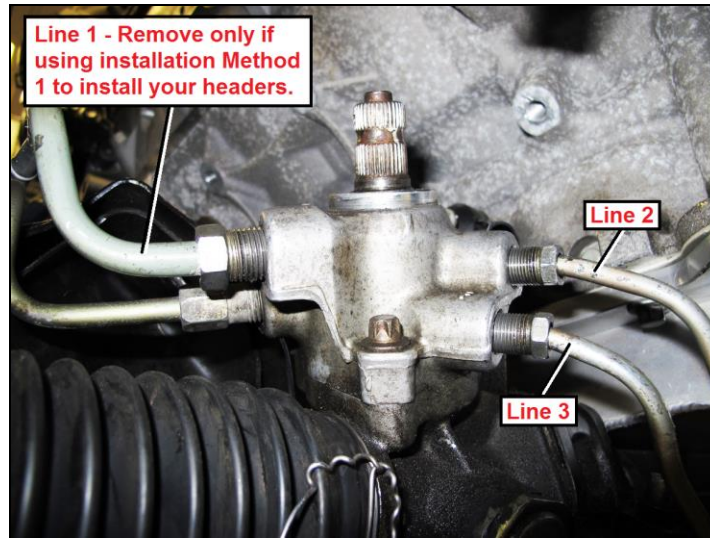

Figure 1
4. Place a small drain pan under the steering components and remove the two or three steel lines from the steering rack as indicated in **Figure 1**. Tuck **Line 1** out of the way and carefully bend **Lines 2** and **3** down and away from the steering rack.